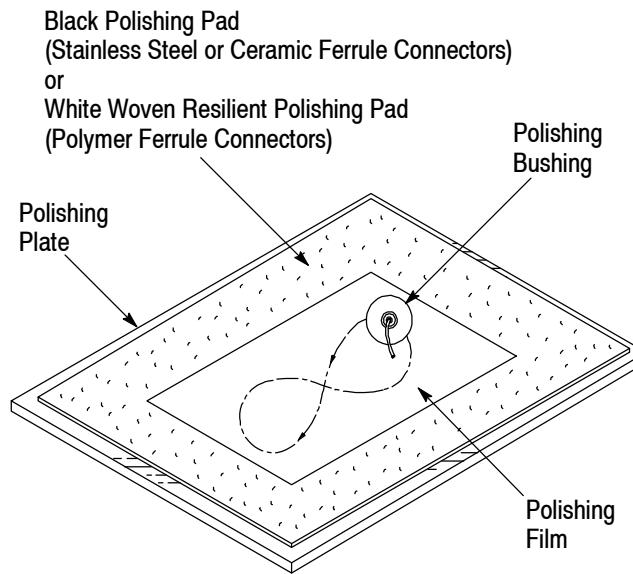

Figure 18
- For polymer ferrule connectors, remove the adhesive backing from the white woven resilient polishing pad, then place the pad on the polishing plate. See Figure 18.
- For the stainless steel and ceramic ferrule connectors, remove the adhesive backing from the black polishing pad, then place the pad on the polishing plate. See Figure 18.
7. Gently insert the connector into the polishing bushing, and move the bushing in a figure-8 pattern, supporting the weight of the connector for the first three figure-8 patterns to prevent the fiber from breaking or scoring the film. See Figure 18.